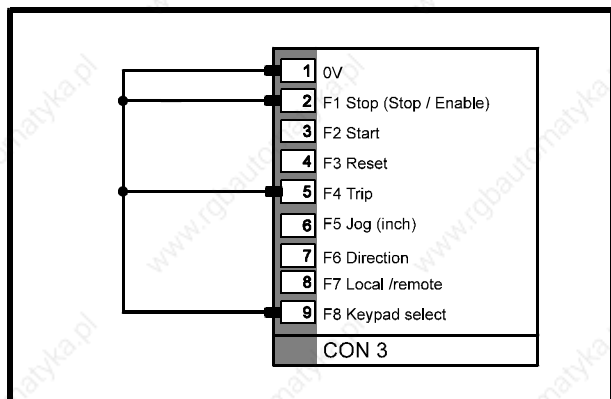

Figure 8-2 Connections for operating the Drive in Keypad Mode
1. Connect together pins 1, 2, 5 and 9 of connector CON 3 as shown in Figure 8-2.